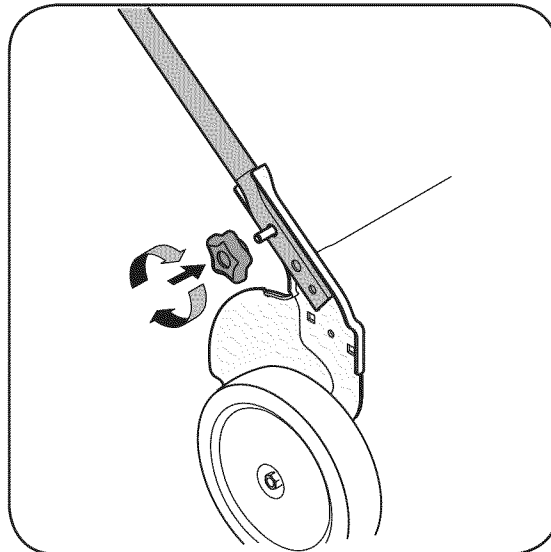

Figure 3-2: Secure handle to handle mounting brackets.
2. Replace and tighten hand knobs removed earlier to secure lower handle to handle brackets. See Figure 3-2.